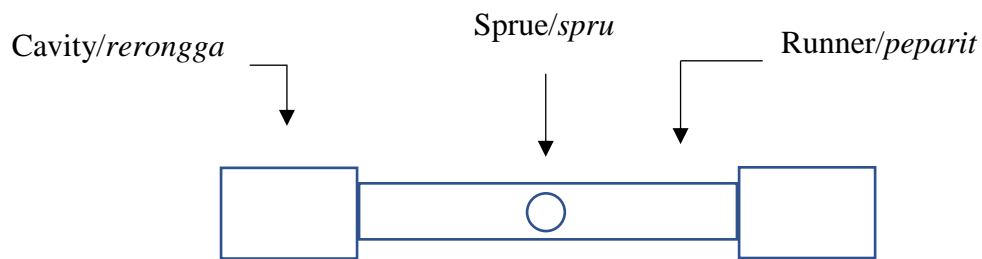

Figure 2 Mould layout
- ©. Two polypropylene (PP) moldings, each weighing 10 g, are to be moulded using the runner layout shown in Figure 2. Calculate the total volume flow rate and melt velocity for each runner. Given the density of the polypropylene is 909 kg/m^3 and the volume of the sprue is 5000 mm^3 .